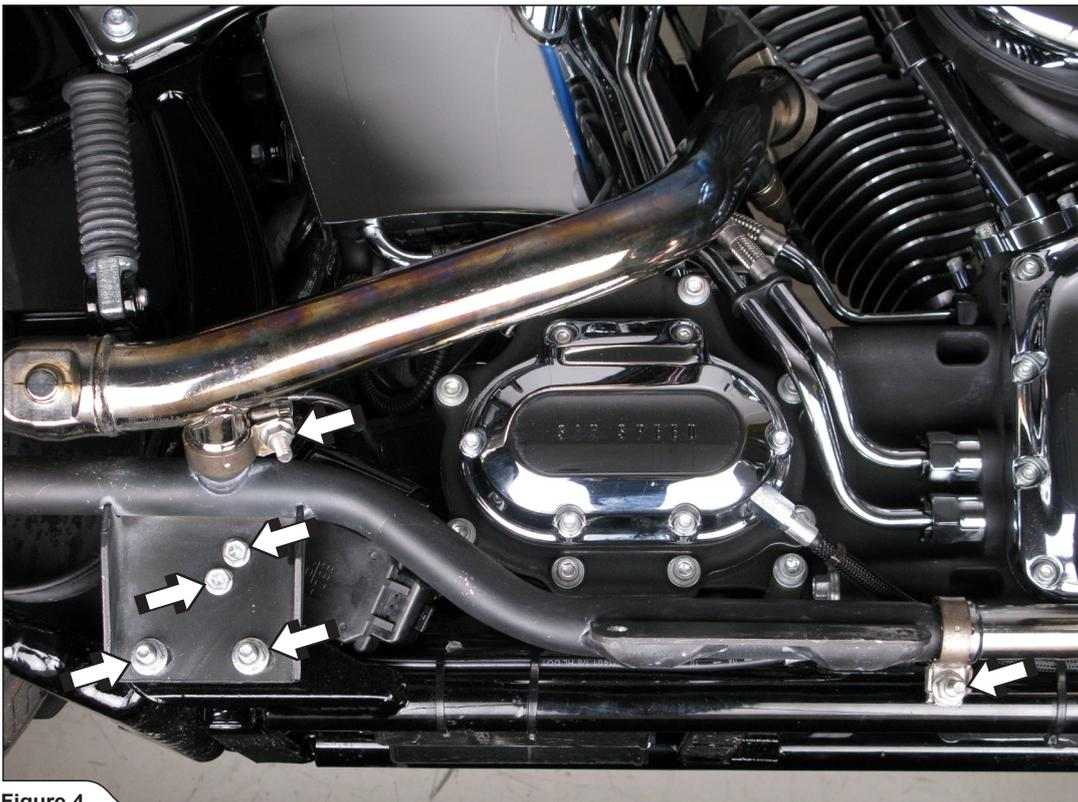

Figure 4
5. Loosen the headers-muffler bracket connection clamps, unscrew the bracket screws and remove the muffler bracket off the motorcycle (**Figure 4**).